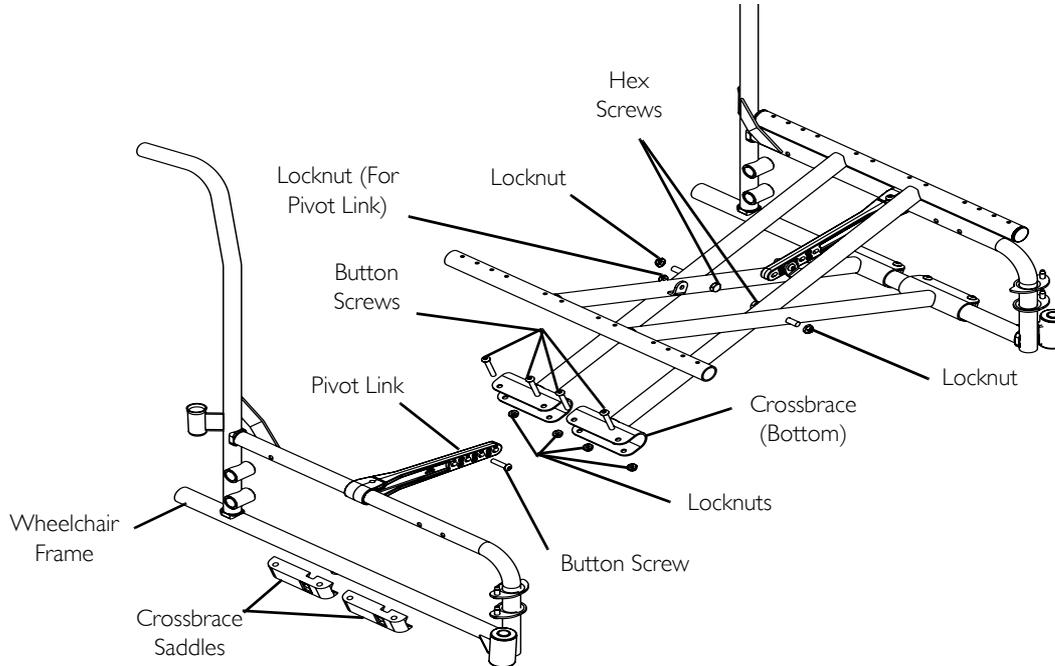

FIGURE 3 Adjusting the Seat Width
i For this procedure, refer to FIGURE 3 on page 56.
5. Assemble the two new crossbraces together with the existing two hex screws and locknuts. Securely tighten. Refer to FIGURE 3 for hardware orientation.
i Position the rear crossbrace saddles on wheelchair frame using the washer on the underside of the wheelchair frame as a reference. Refer to FIGURE 3 on page 56 for proper positioning of the crossbrace saddle.